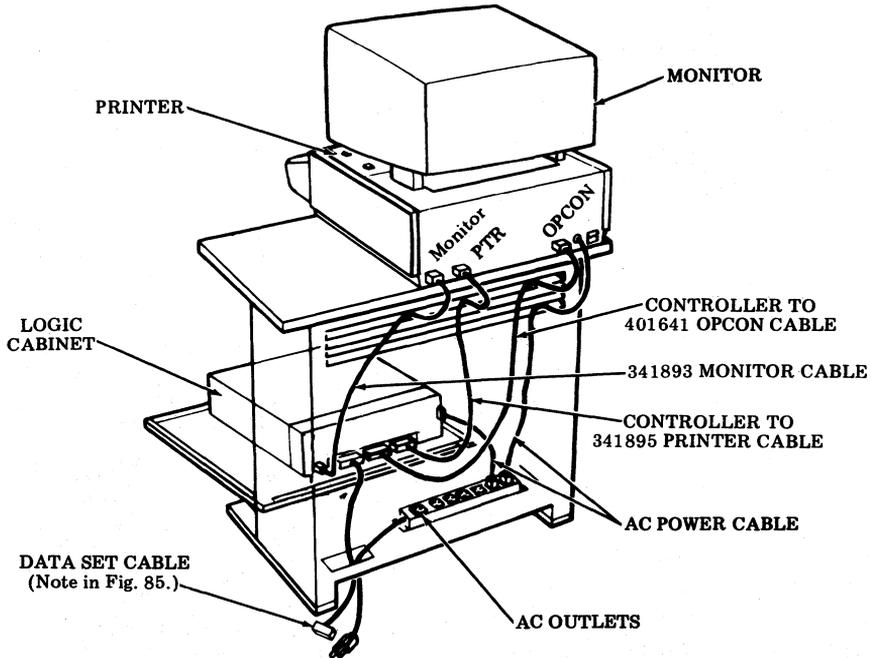

Fig. 87—KDP Pedestal-Mounted, Friction Feed Printer Under Monitor
- Fig. 87 — KDP Pedestal-Mounted, Friction Feed Printer Under Monitor